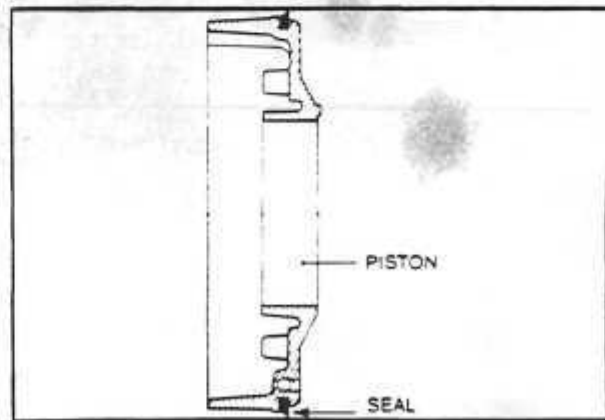

Fig. 64
7. Remove the seal from the piston. *Fig. 64*
1. Lubricate the new piston with transmission fluid and fit on the piston with the lip on the seal facing the bottom of the piston. *Fig. 64*